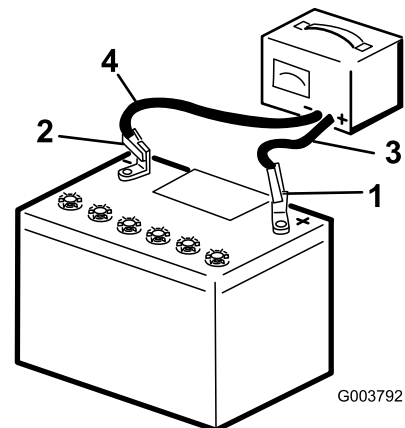

Figure 131
5. Connect the positive lead of the battery charger to the positive battery post (Figure 131).
6. Connect the negative lead of the battery charger to the negative battery post (Figure 131).
- When the battery is fully charged, unplug the charger from the electrical source, then disconnect the charger leads from the battery posts (Figure 131).